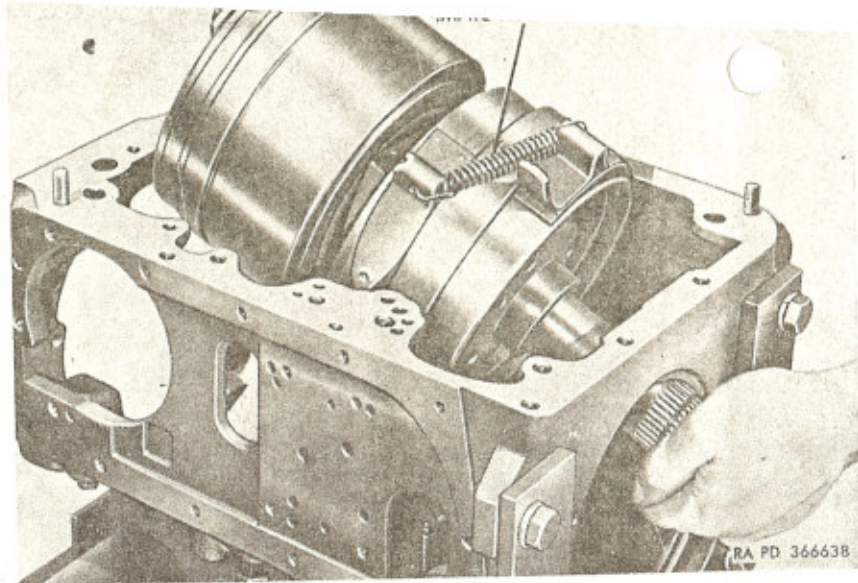

Figure 50. Removing or installing planetary units and carrier.
g. Install an improvised spring (fig. 50) to hold front band on front unit drum.
h. Lift both front and rear planetary units and carrier as an assembly (fig. 50) from transmission case. Place assembly in holding fixture—B7079295 (fig. 101) to prevent possible damage to assembly.